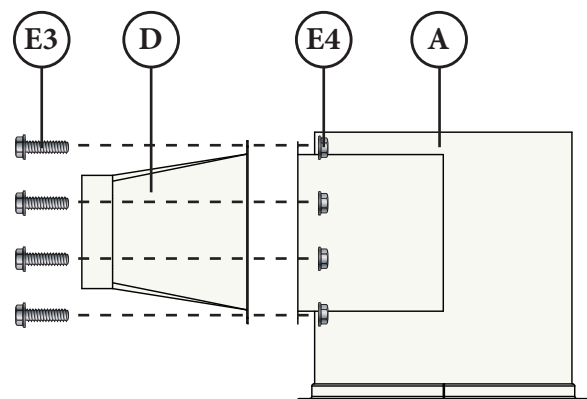

FIG. 6
Attach the 12" Square to Round (D) onto the inlet of the Fan Blower Assembly (A) with ten 5/16"-18 x 1.25" Bolts (E3), and ten 5/16" Whiz-Lock Nuts (E4) as shown in [FIG. 6].